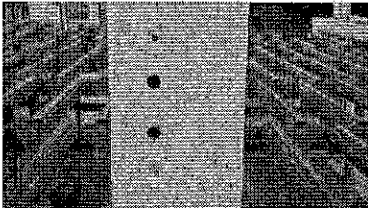

figure 4
- 2.6 Insert grommets into the top and bottom hole of the handle prep interior side of panel (see figure 4 below).